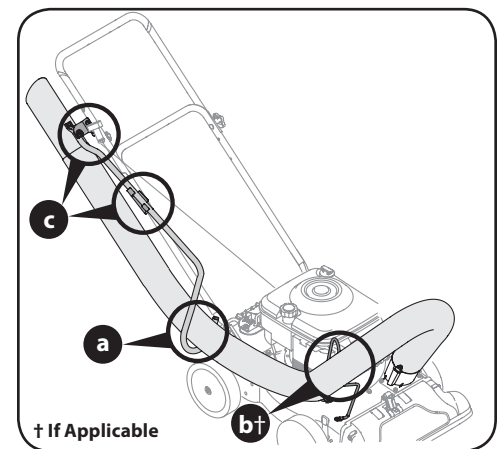

Figure 3-5
4. Lay hose tubing in curved end of hose handle next to chipper chute and into hose cradle (if applicable). See A and B in Figure 3-5.
3. Snap the hose handle first into the upper hose handle bracket and then into the lower hose handle bracket. See C in Figure 3-5.